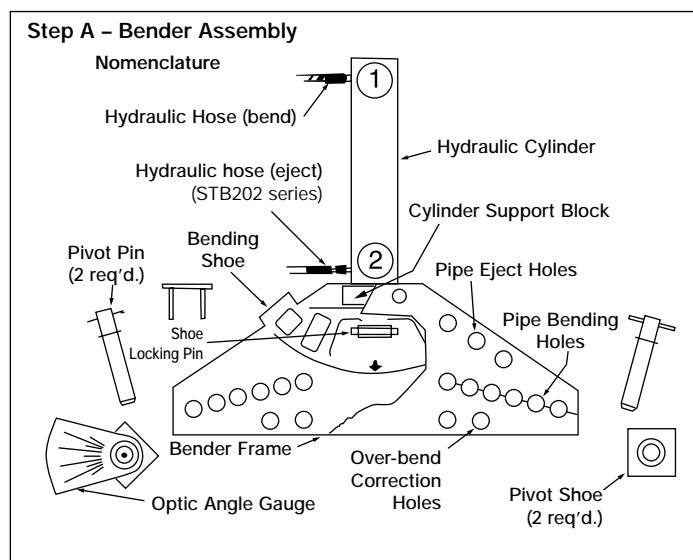

Figure 1, Bender Assembly
4.0 BENDER ASSEMBLY (see Figure 1)